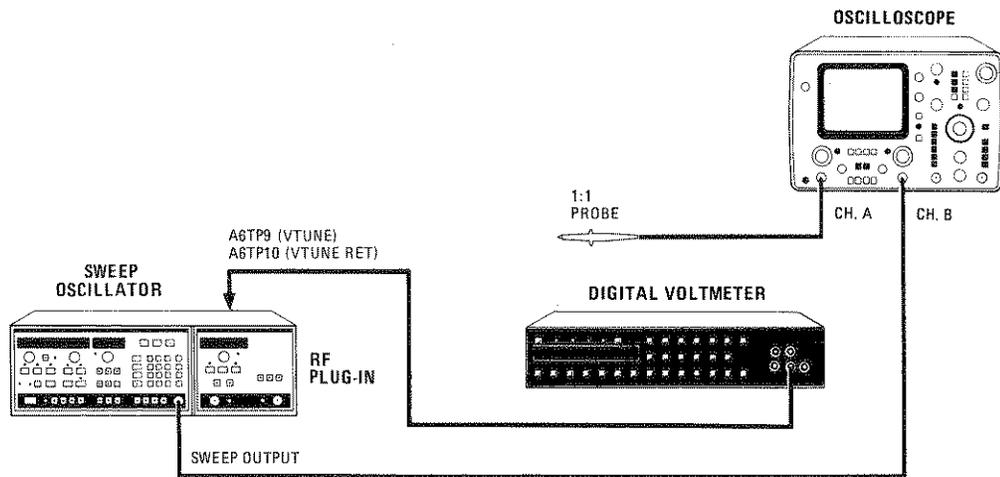

Figure 5-3. Sweep Control Adjustments Test Setup
2. Set up the equipment as shown in Figure 5-3 with the DVM connected to A6TP9 (VTUNE) and the DVM reference probe connected to A6TP10 (VTUNE RET). Do not connect the Oscilloscope probe yet. Allow the instrument to warm up for one hour.